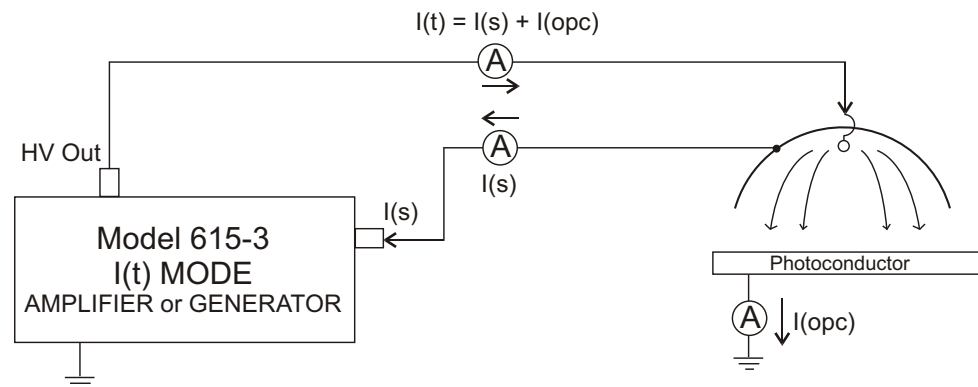
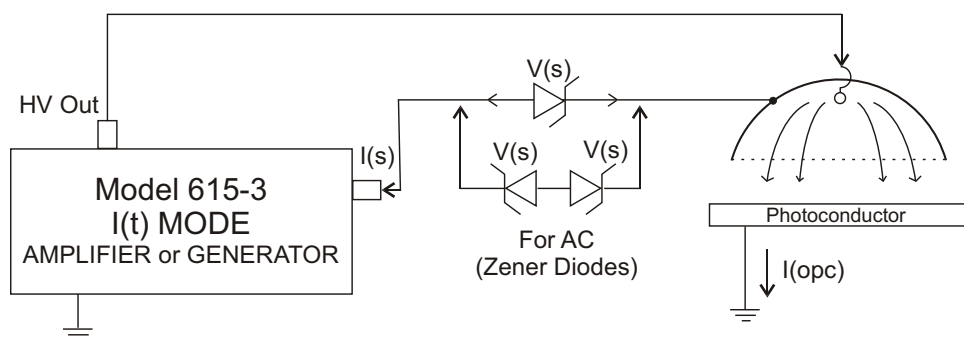

Figure 2: Typical “Corotron” control system
Figure 3: Typical control system for a “Scoratron” device
Shown in Figure 2 is a 615-3 connected to a Corotron device. As shown, the ionization wire is connected to the HV output terminal, the Corotron shield is connected to the I(s)terminal, and the OPC substrate is connected to ground. Also shown are ammeters (A) used to measure I(t) the total current, I(s) the Corotron shield current, and I(opc) the OPC current to ground.
Shown in Figure 2 is a 615-3 connected to a Corotron device. As shown, the ionization wire is connected to the HV output terminal, the Corotron shield is connected to the I(s) terminal, and the OPC substrate is connected to ground. Also shown are ammeters (A) used to measure I(t) the total current, I(s) the Corotron shield current, and I(opc) the OPC current to ground.
Figure 3 shows a typical control system for a “Scoratron” device where the grid of the “Scoratron” is normally biased at some voltage value $V(s)$ above (or below) ground by use of a zener diode (ZD) device. In AC applications, dual ZD devices are used to produce symmetrical voltage bias values. This Scoratron control system operates identically as the control system of Figure 2.